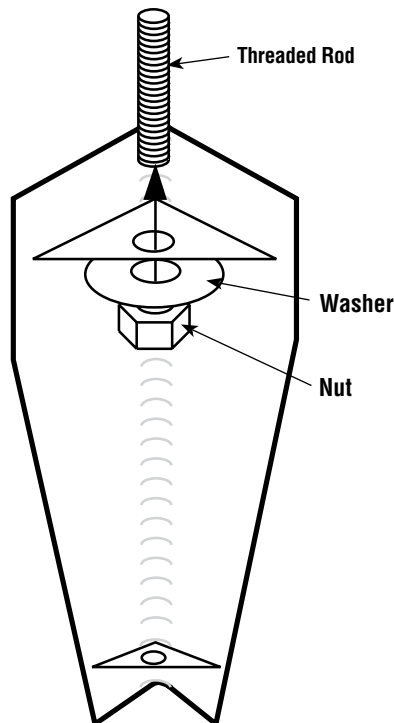

Figure 9
2. Mount all four legs as shown in **Figure 9**.